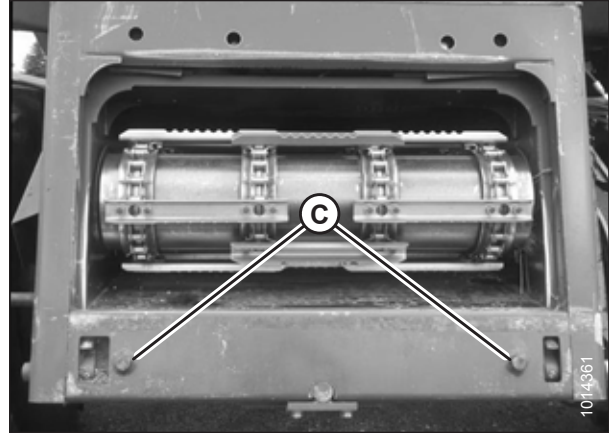

Figure 4.61: AGCO Group Alignment Pins
3. Start the engine and slowly approach the header until the feeder house is directly under float module top cross member (A) and alignment pins (C) (refer to Figure 4.61, page 352) on the feeder house are aligned with holes (B) in the float module frame.